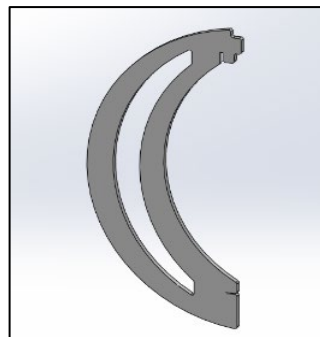

FIG. 4 - FIN
3. FOURTEEN (14) FINS (FIN shape may change depending upon the model) (shown in FIG. 4)